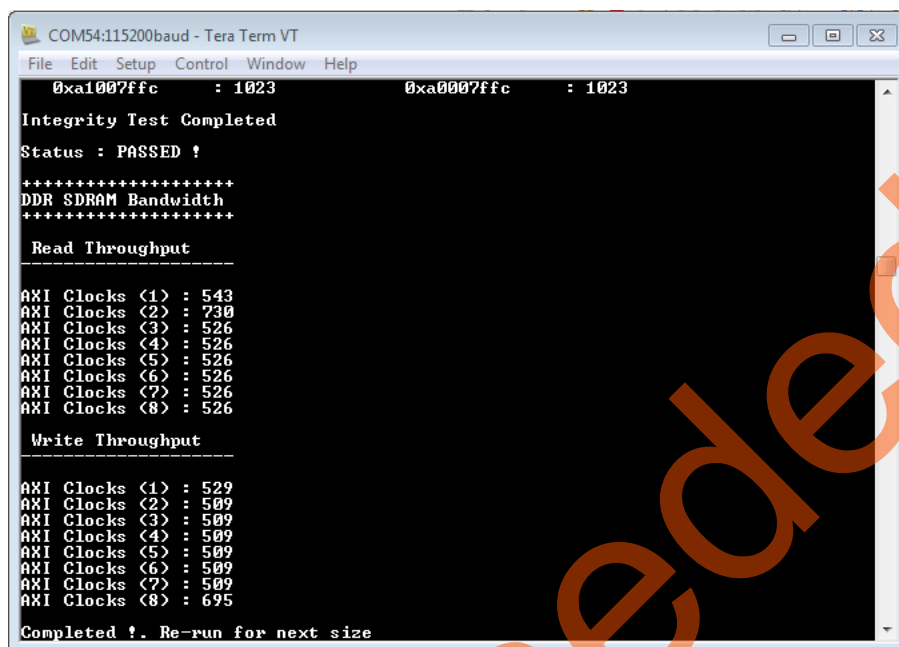

**Figure 36 • USB to UART Bridge Drivers**
Ensure that the USB to UART bridge drivers are detected by verifying the Device Manager, as shown in Figure 36 on page 31.
**Note:** Copy the COM port number for serial port configuration. Ensure that the COM port **Location** is specified as **on USB Serial Converter C**, as shown in Figure 36.